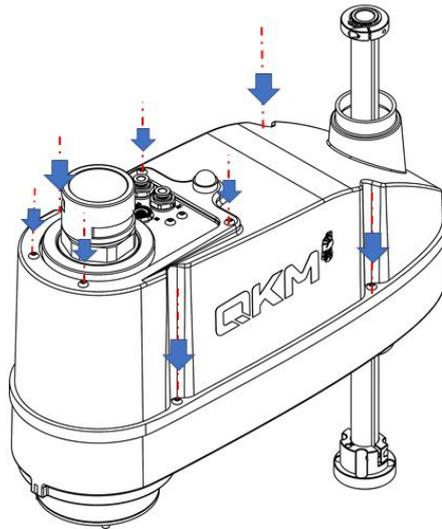

Figure 4-17 Installation of the second mechanical arm shell
Step 2 Use 2.5 mm Allen wrench to tighten the fastening screws on the shell of the robot (with a tightening torque of 0.5 N·m), as shown in Figure 4-17.